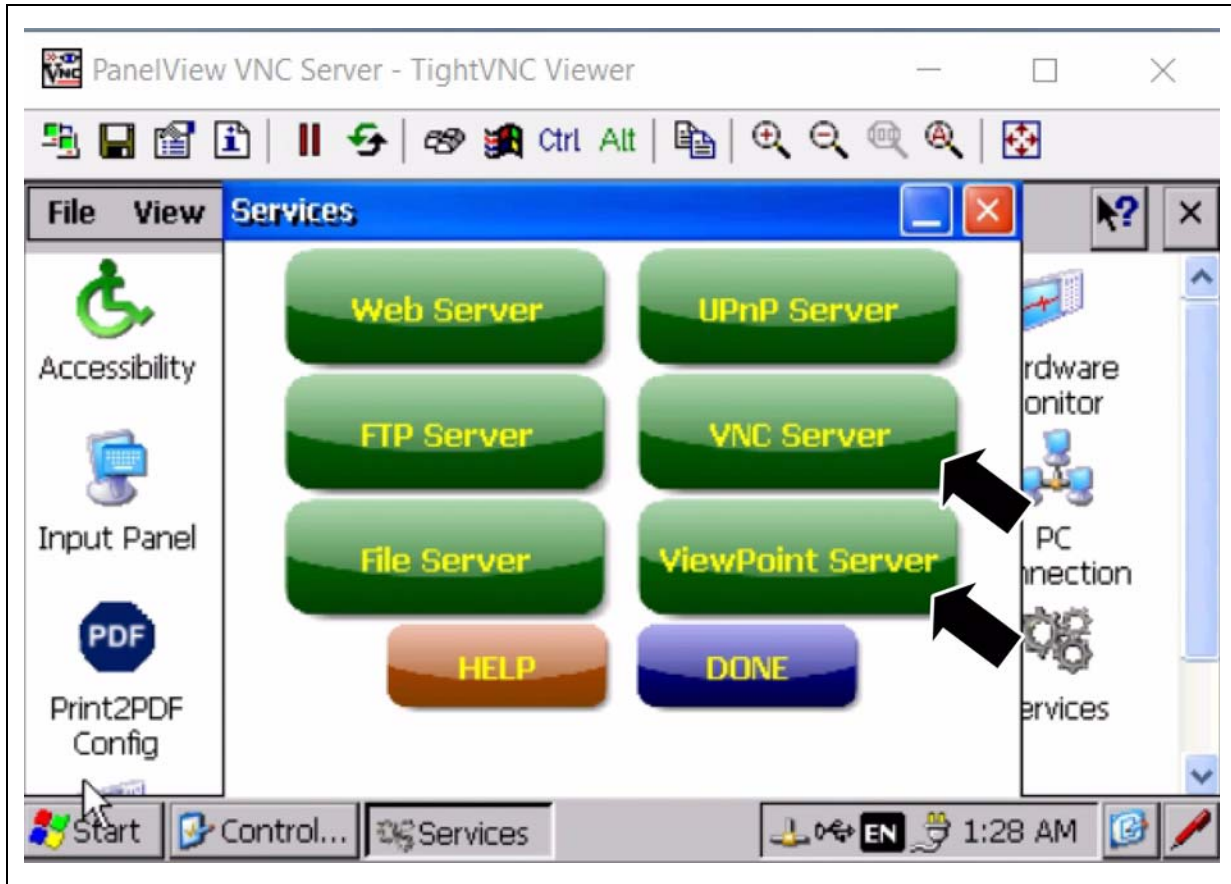

Figure 3T
13. Press the ViewPoint Server and VNC Server button and both should turn green. (See Figure 3T.)